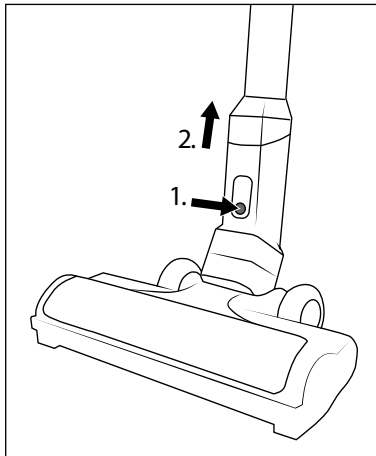

Fig. 11
- ◆ To remove the floor brush **21** from the suction pipe **23**, hold down the floor brush release button **22** and pull the suction pipe **23** off the floor brush **21** (see Fig. 11).